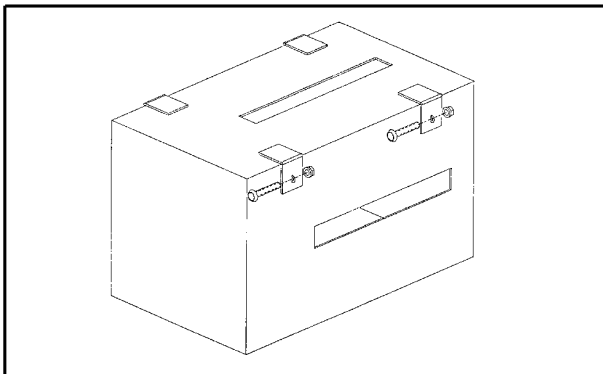

Figure 24 Safety Chamber
1. Place the Double Diaphragm Spring Brake assembly inside a safety chamber (Figure 24(See Figure 24, page 21)) for disarming. Close the lid on the safety chamber and lock closed. (The service pushrod may need to be cut off for the assembly to fit in the safety chamber.)